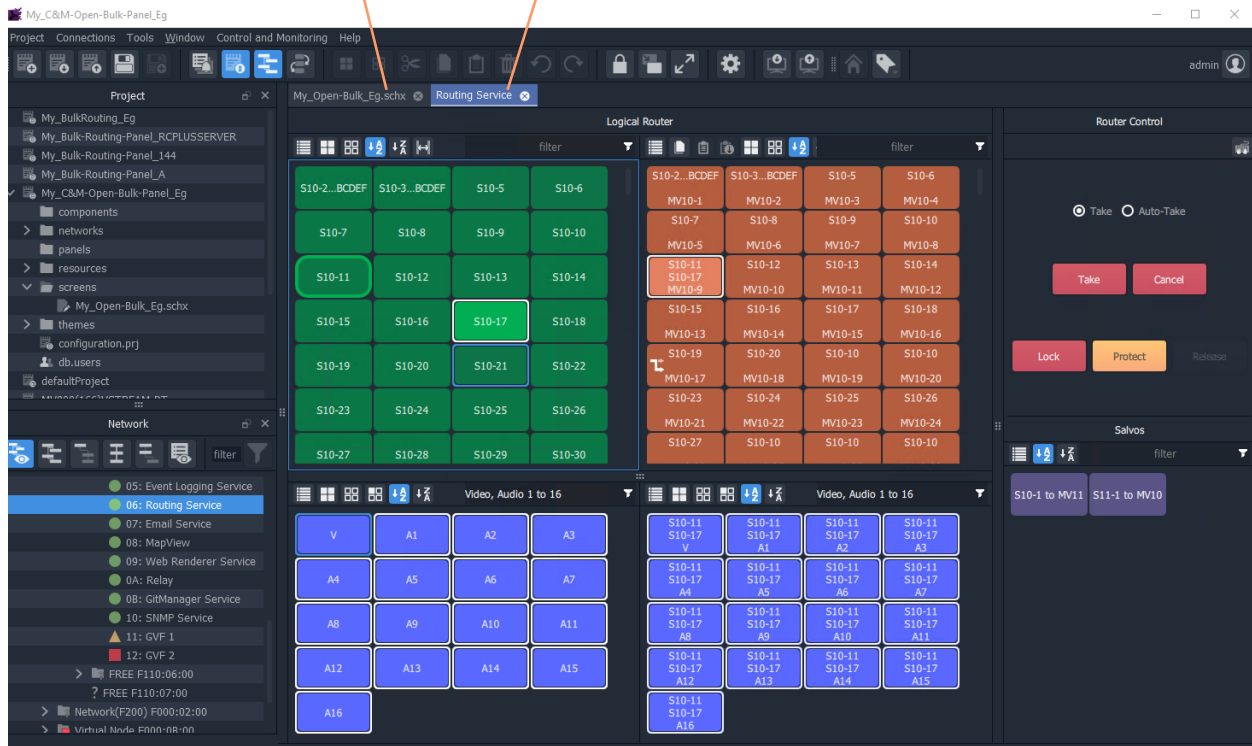

Fig. 5-96: Bulk Routing Panel Opened in a Tab
- 2 Click on the **Button** widget to open a new tab containing an Bulk Routing Panel. See Figure 5-96.